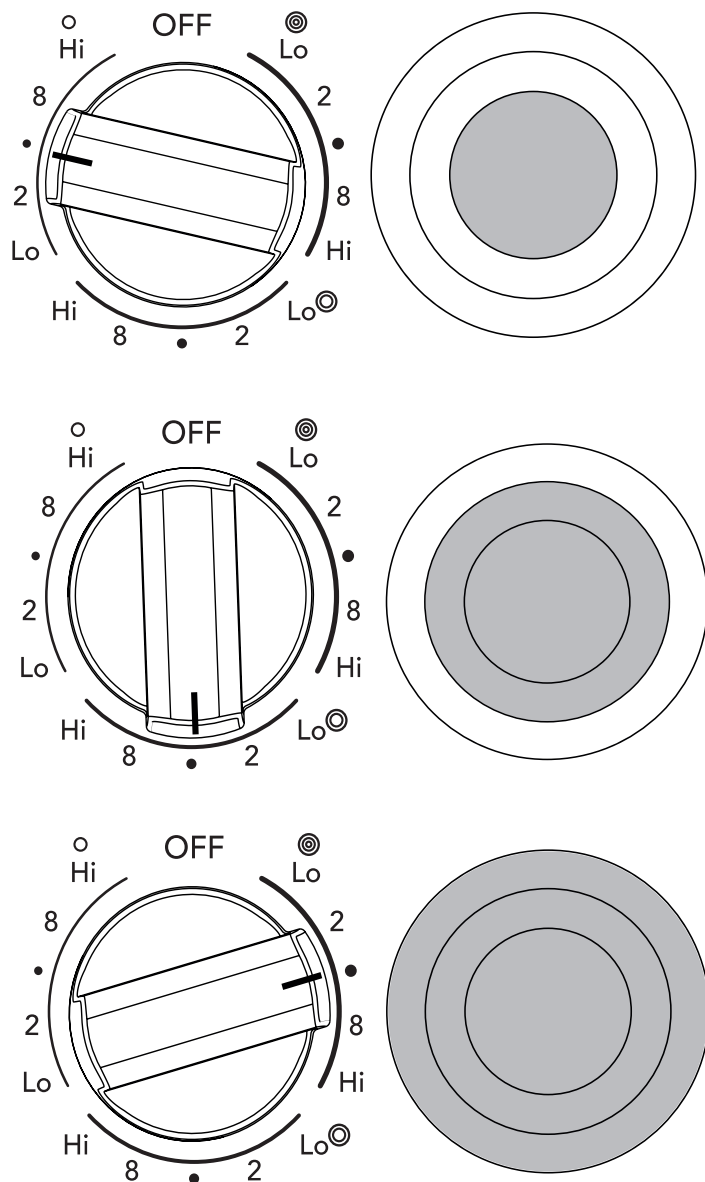

Figure 8: Single, dual, and triple elements
2. Push in and turn the control knob to the inner element symbol for smaller cookware or to the inner and middle element symbol for average cookware or to the inner, middle, and outer element symbol for large cookware (Figure 8). Turn the knob to adjust the setting if needed.